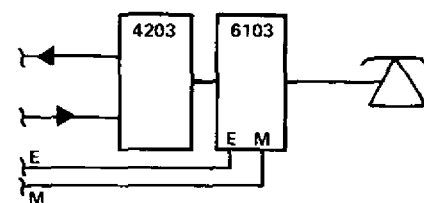

figure 4. Typical 4wire-E&M-to-2wire-FXS application
2.12 The 6103 can be used without an associated SF or DX signaling module to convert E&M facility signaling (typically, from an associated carrier channel) to FXS-type signaling at the station end of a circuit. If the carrier channel uses inverted E-lead signaling states, the 6103's inverted-E-lead signaling option provides the necessary compatibility. Please note that if the carrier channel (or other facility-side signaling equipment) requires -48Vdc M-lead potential, the 6103 must likewise be powered from a nominal -48Vdc source. Also, please be aware that the information in paragraphs 2.10 and 2.11 applies equally to E&M applications of the 6103. Figure 4 shows a typical 4wire-E&M-to-2wire-FXS application. A terminating set (Tellabs 420X or equivalent) provides the required 4wire-to-2wire conversion.